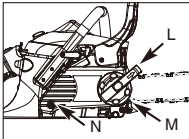

Fig. 3G
12. Lock the screw (N) be tight, and follow step 13 to adjust the chain tension.
13. Turn the tension ring clockwise tight (M); pull the control button by arrow direction (L) to turn tightly be clockwise then push the control button back. (Fig.3G)